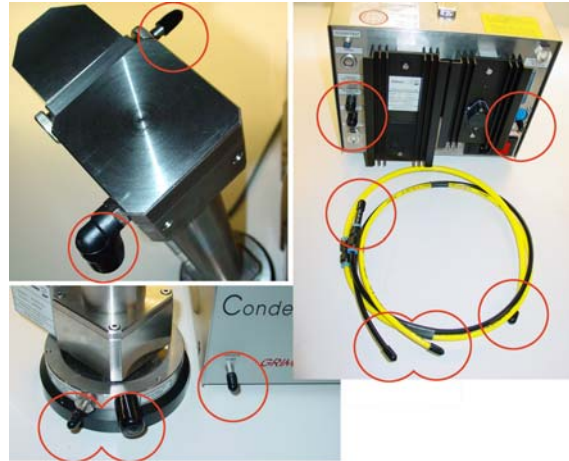

Fig.1: Protective taps
1. **Remove all protective taps** from both the external hoses as well as from the CPC & DMA (figure 1).